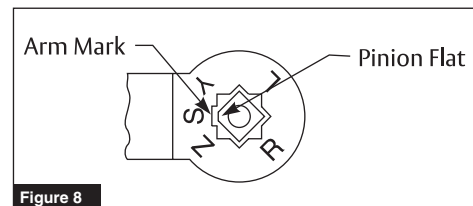

Figure 8
**NOTE:** Align arm mark "S" with flat corner of pinion shaft square. (Figure 8)